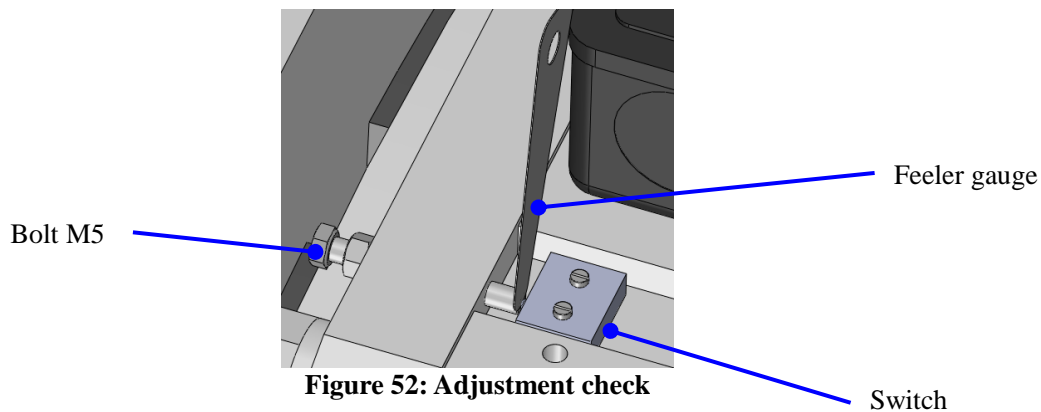

Figure 52: Adjustment check
5. Use the multimeter to make sure the new switch functions by inserting feeler gauges between the bolt M5x40 and the switch. The switch should not act when inserting a 0.1mm (0.004") feeler gauge and should act when inserting a 0.2mm (0.008") feeler gauge. See Figure 52.